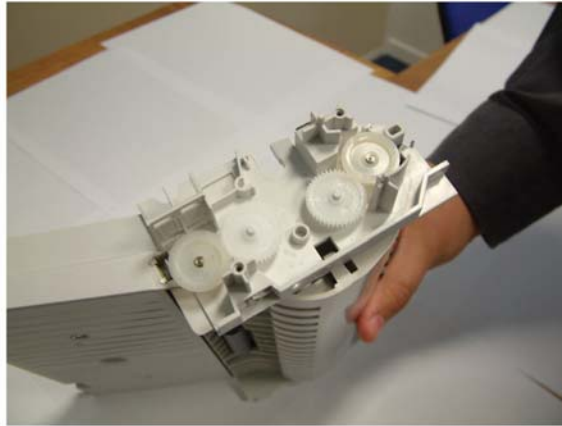

Figure 4
2. Position the teeth gears respecting their location identified during disassembly, Figure 4.